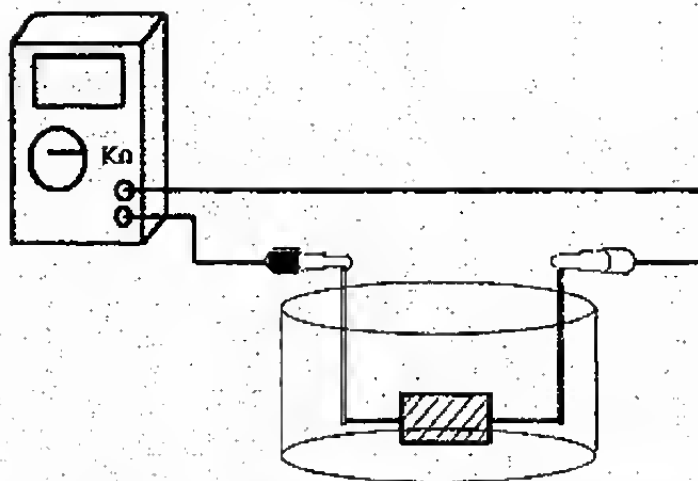

Figure 5: Equipment Arrangement
(1) Set up the meter/diode test apparatus as shown in Figure 5. A diode is an electronic device that allows current to flow in only one direction. You will use a special type of diode called a thermistor. A thermistor is a semiconductor material which has resistance proportional to  $1/T$ . Thus you observe increased resistance with decreased temperature.